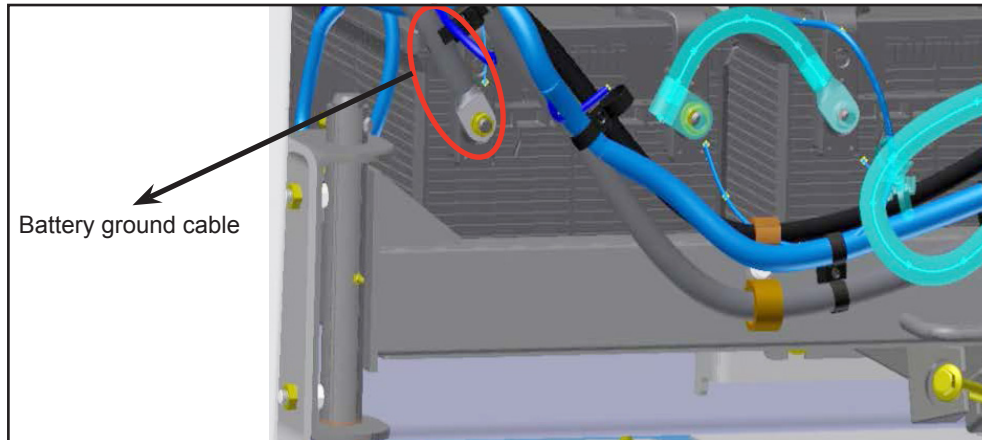

Figure 3 - Location of Battery Ground Cable
- 1.7. Disconnect the battery ground cable and retain the hardware (see Figure 3). Insulate the terminals to avoid accidental grounding. Refer section 16: ELECTRICAL SYSTEM of the Nova Bus maintenance manual for precautionary measures.